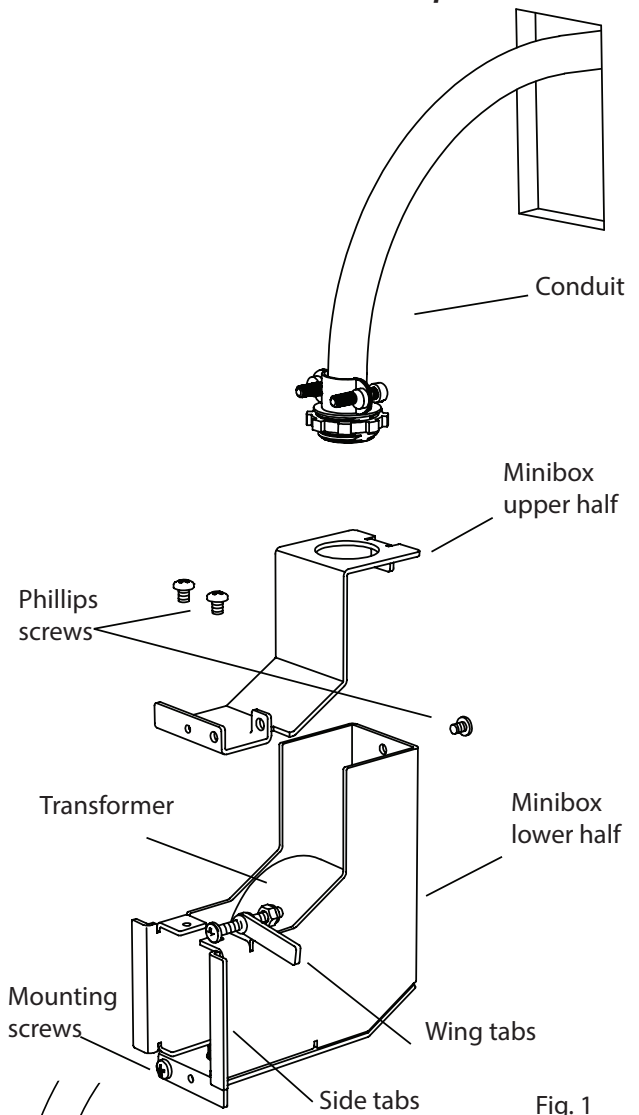

Fig. 1
3. Cut an opening in the mounting surface (minimum 3/8" thick) that measures 1.5" wide by 2.75" high. (Fig. 1)
4. Pull 1/2 trade size **flexible metal conduit or building cable** through the opening. (Fig. 1)
5. Remove the three **Phillips screws** and separate the Minibox into **upper and lower halves**. (Fig. 1)
6. Remove the knockout tab from the upper half and attach the cable/conduit to the knockout opening using appropriate connectors (Note: Cable/conduit and connectors not included). (Fig. 1)
- d. **For 60W and 75W unboxed Transformers only:** Carefully place connections and Transformer in lower half, with the connections in the section near the knockout. (Fig. 1)
9. Reattach upper and lower halves by installing the three Phillips screws removed previously. (Fig. 1)
10. Loosen the two **mounting screws** on the front face of the Minibox until the gap between the wing tabs and the side tabs is greater than the thickness of the mounting surface. (Fig. 1)